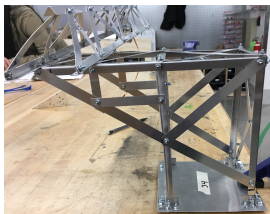

Figure 2: Side view of base
1. Base: Our design featured a $5 \times 5 \times 8$ inch rectangular base with a 6 inch overhang. The front and back of the base were supported by X-shaped trusses. The sides use a V-shaped truss to support both the rectangular portion as well as the overhang. (see Figure 2)